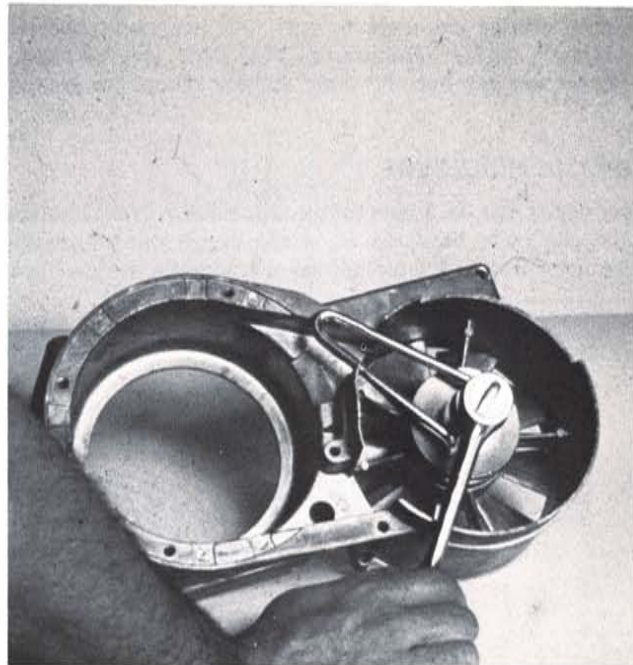

FIG. 36
6. Next, remove nut and axial fan sheaves. (Fig. 36)